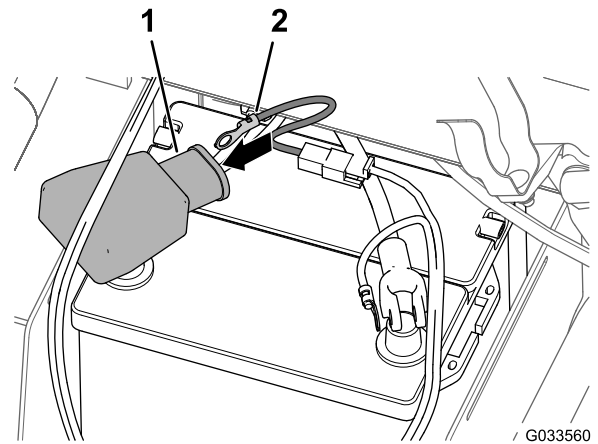

Figure 27
4. Align the ring terminal of the fusible link (sprayer wire harness) though the wide battery cover as shown in Figure 27.